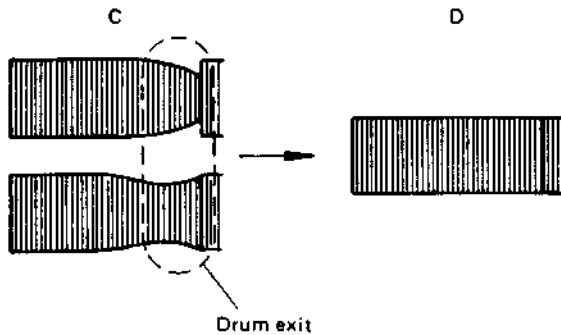

Fig. 2-4-13 Drum exit adjustment
- 2) In the same manner as for the drum entrance, turn the take-up guide roller to adjust the falling portion (drum exit) of the FM waveform. Incorrect examples are shown by C in Fig. 2-4-13, while D indicates the correct adjustment.